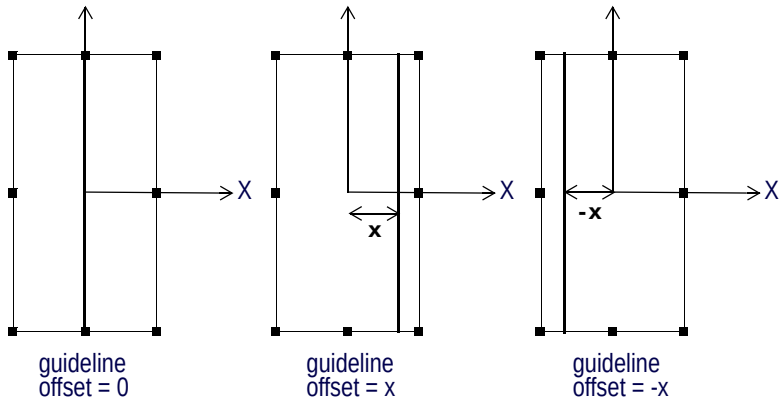

Figure 352 Line Finder — Guideline Offset
- See Figure 352 for an illustration of positive and negative **Offset** values.